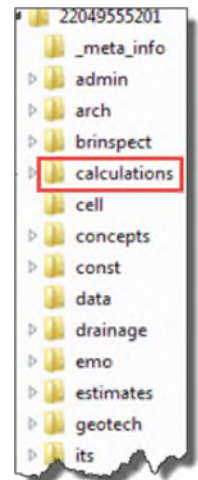

Figure 1 -
- (1) Ensure all revised **Plan Summary Boxes** are included in the **Final As-Built Plans** per **CPAM 5.12**.
- (2) Ensure all **Plan Summary Boxes** are updated with all additions, deletions, and changes to reflect the actual conditions of the project within 30 days of pay item closeout per **CPAM 5.12.8**. Place a red check mark in the final quantities column when there are no changes to the contract quantity. Enter the final quantity when the contract quantity differs from the final quantity.
- (3) Use red font color for any markups.
- (4) Reference all backup documentation by EDMS number in the Remarks column.
- (5) Use the Excel spreadsheets included in the **CADD_[FPID].zip** or **BIM [FPID].zip file**, in the **Calculations** directory (see Figure 1) to add a new **Plan Summary Box** to the **Final As-Built Plans**. Refer to the CADD Manual. See Attachment 5.13-1.